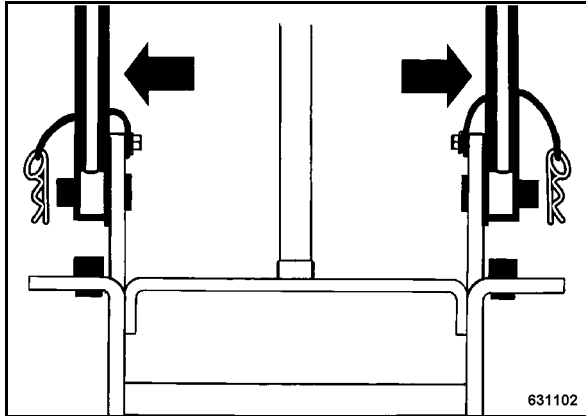

Fig. 14
- Force the steering bow (Fig. 14) apart and plug it onto the bracket.